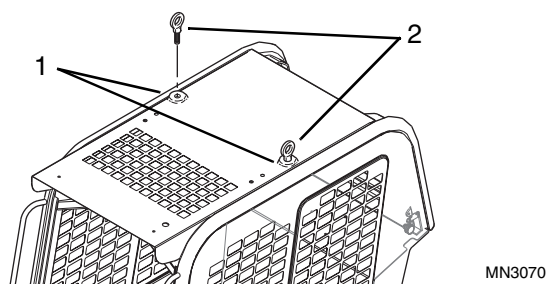

Figure 9-52 Operator Protective Structure Lift Points
15. Two threaded holes (Fig. 9-52, 1) are located in the top of the Operator's Protective Structure. Remove the plastic plugs and install a 3/8-16 forged steel hoist eye (2 [must obtain locally]) into each hole.
16. Attach a suitable lifting device to both hoist eyes (Fig. 9-52, 2), and remove any slack from the lifting equipment to ensure the Operator's Protective Structure remains in the raised position while disconnecting the shocks in the following step.